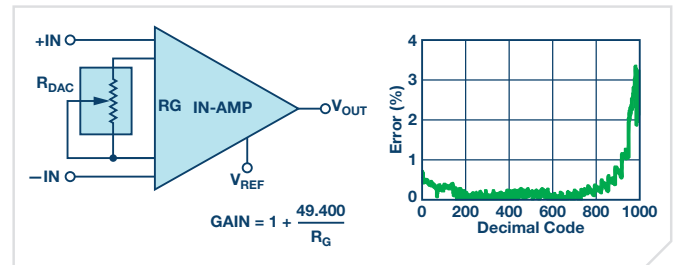

Figure 9. Instrumentation amplifier.
- ▶ ADI offers digiPOTs, for example, the AD5272 and AD5292, with industry-leading maximum  $\pm 1\%$  variable resistor performance; these devices enable designers to digitally program accurate resistor values, simplifying the process of determining the system error budget (see Figure 9)